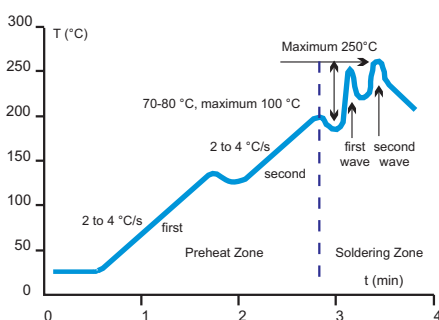

Fig. 1. Wave Soldering Temperature Profile for Pb-free and Pb-containing Soldering
**Thermal Shock** - to avoid the possibility of generating stresses in the varistor chip due to thermal shock, a preheat stage to within 100 °C of the peak soldering process temperature is recommended. Additionally, SMD varistors should not be subjected to a temperature gradient greater than 4 °C/sec, with an ideal gradient being 2 °C/sec. Peak temperatures should be controlled. Wave and Reflow soldering conditions for SMD varistors with Pb-containing solders are shown in Fig. 1 and 2 respectively, while Wave and Reflow soldering conditions for SMD varistors with Pb-free solders are shown in Fig. 1 and 3.